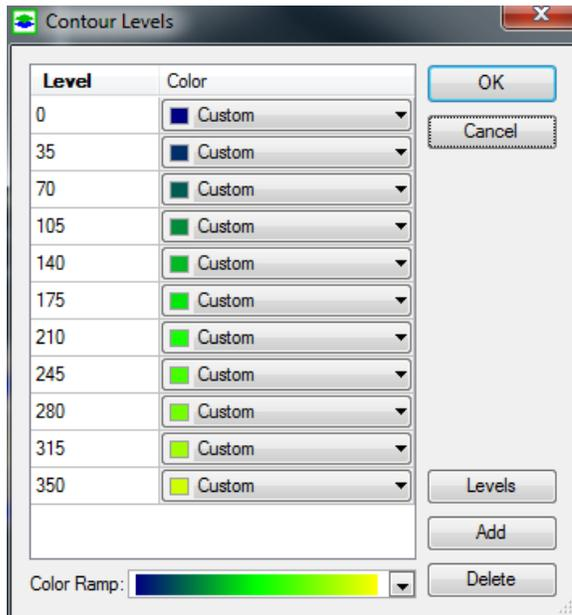

Figure 2.3. The Contour Levels dialog box
- *Contour Levels*: Click the  button to open the Contour Levels dialog box (Figure 2.3) that contains a table showing levels and corresponding colors. You can modify the table by using the following controls.